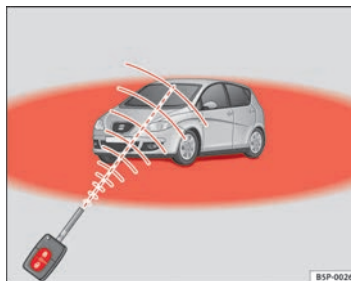

Fig. 65 Range of the remote control
- The remote control functions only when you are in range => fig. 65 (red area).